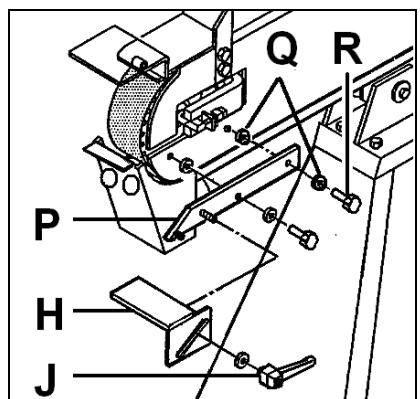

**Fig 6**
Attach the dust tray (I, Fig 6) with star knob (O) and washer.
Close the eye shield (B, Fig 5) and the lower belt cover (N, Fig 6).
Close the lower belt cover (N, Fig 6).